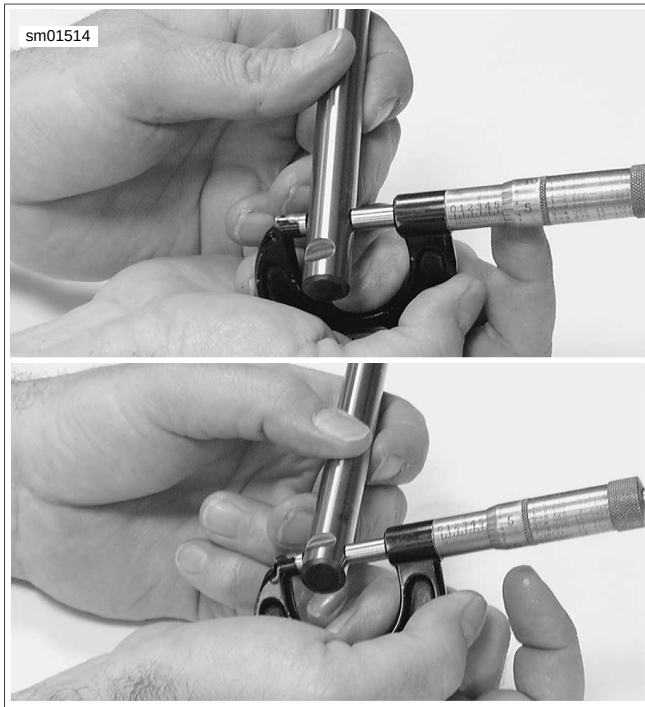

Figure 3-116. Measuring Rocker Arm Shaft Diameter at Bushing Position (top) and Cover Position (bottom)
2. See Figure 3-116. Measure and record rocker arm shaft diameter at the positions where rocker arm bushings ride and where shaft fits in inner rocker cover.